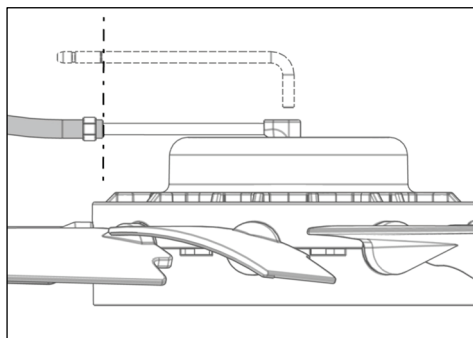

Fig. 19
- 9) Slide the pressure hose over the air intake tube up to the mark (25 mm / 0.984") (Fig. 19).